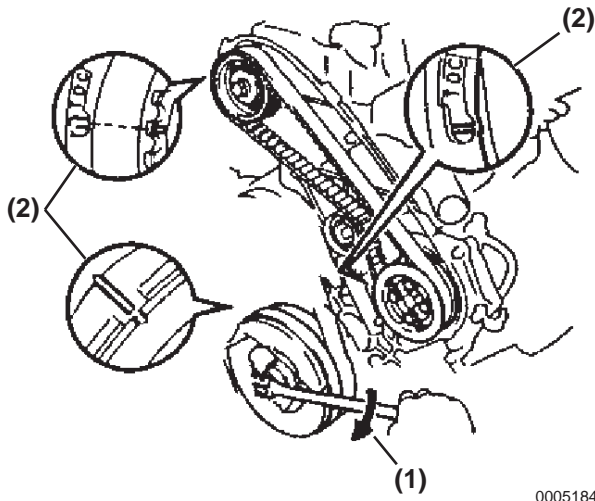

Figure 5-184
17. Turn **(Figure 5-184, (1))** the crankshaft pulley clockwise to check if each pulley timing mark **(Figure 5-184, (2))** matches with the top dead center (TDC) mark. If the timing marks never align disconnect the timing belt and reinstall it to with the correct alignment.